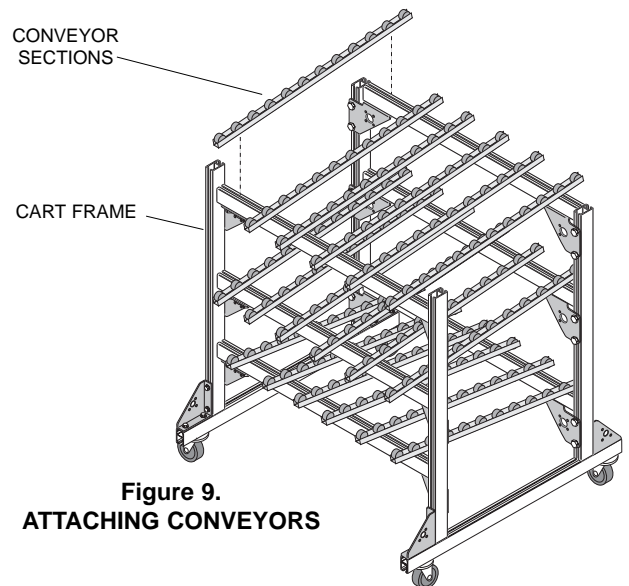

Figure 9.
11. Install the roller conveyor sections on the cross rails by inserting the **E-Z NUT** into the slot in the rail, aligning the conveyor with the mark, and finger tightening the bolt while making sure the **E-Z NUT** turns in the rail for maximum grip. Ensure conveyor channel ends are equal distance from cross rails (conveyor centered on rails). Fully tighten bolts when conveyor sections are properly placed (See Figures 9 & 9a).